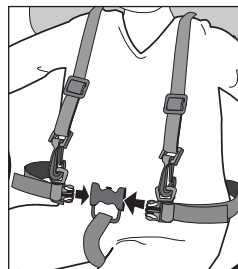
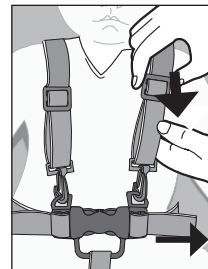

Figure 4.6
Figure 4.7
- 1 Place your child in the stroller, with the crotch strap between the child's legs. Fasten both buckles. **Figure 4.6** Tighten waist and shoulder straps snugly around your child. **Figure 4.7**